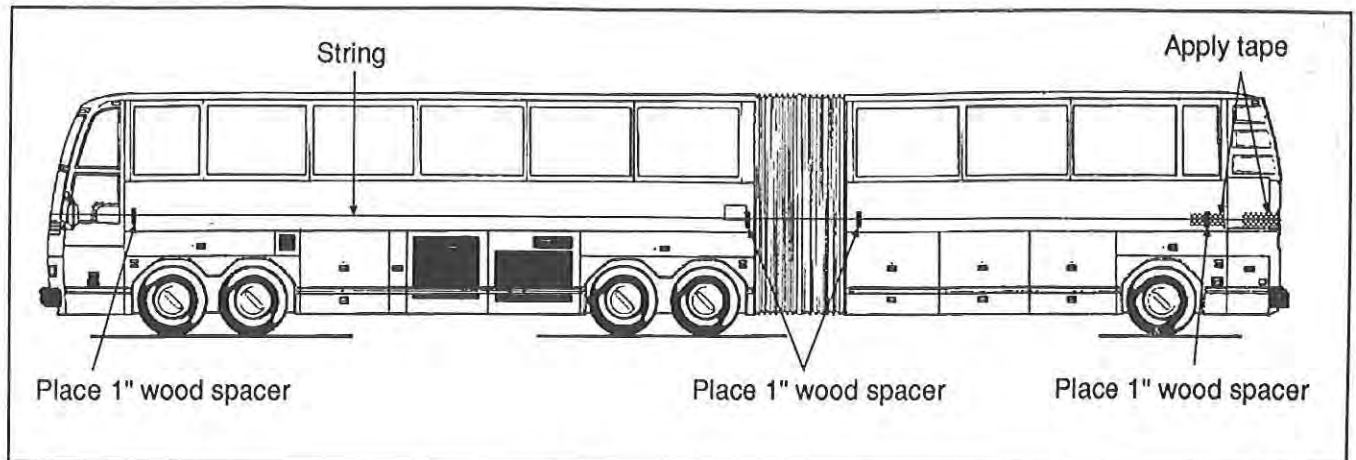

FIG. 9 - String Installation
4. Place tape on hip of the rear corner to protect the paint. Install a 1" spacer at the extremity of straight line body (refer to figure 9 for details).